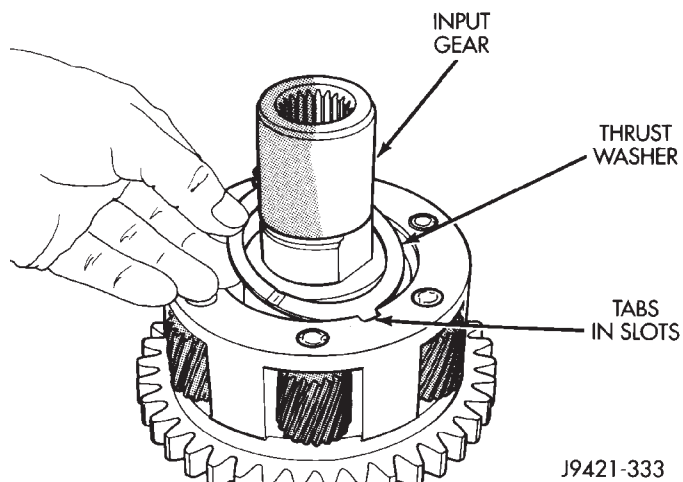
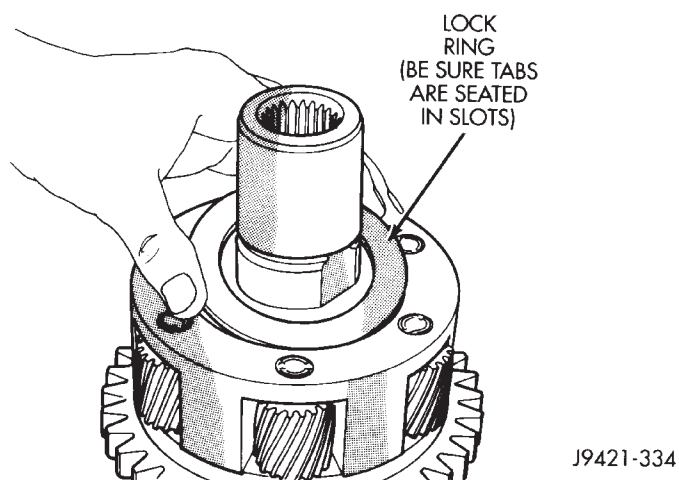

Fig. 62 Input Gear And Thrust Washer Installation
Fig. 63 Lock Ring Installation
(5) Install input gear in planetary carrier (Fig. 62).
(6) Install second thrust washer in planetary carrier. Be sure washer tabs are seated in carrier slots.
(7) Install lock ring (Fig. 63).